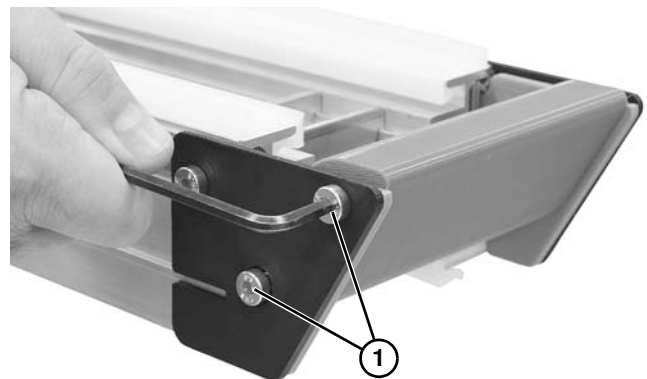

Figure 85
- On both sides of conveyor, remove two fastening screws (**Figure 85, item 1**).